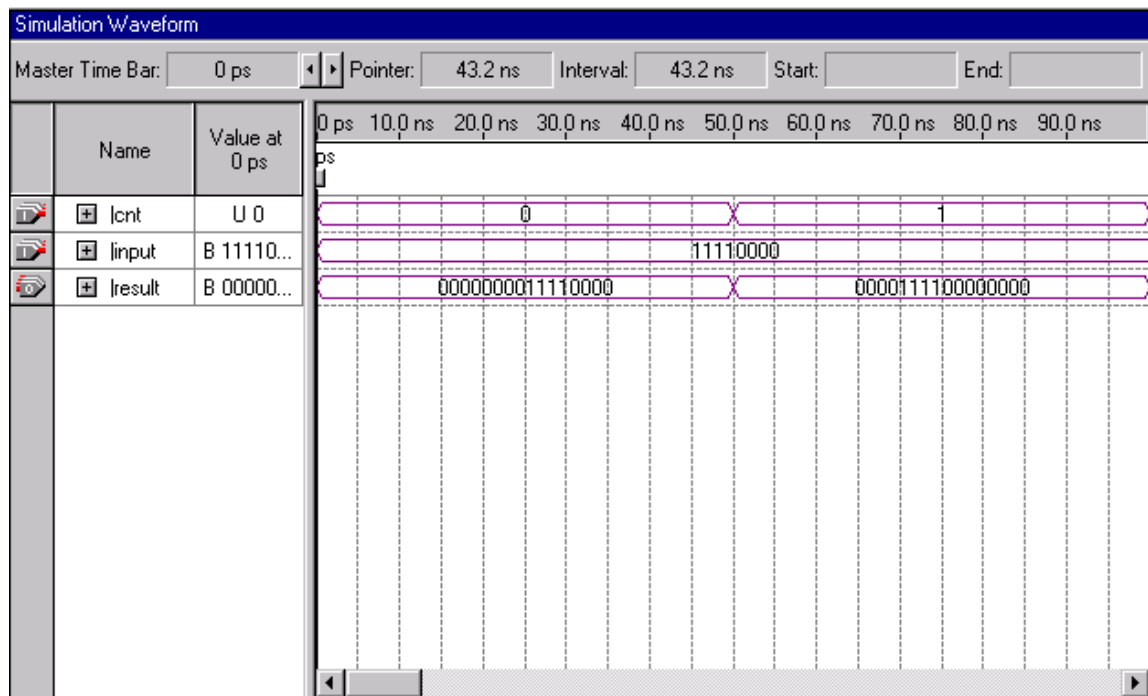

Figure 4-6.
6. Check to see if you get the same results shown in Figure 4-6.